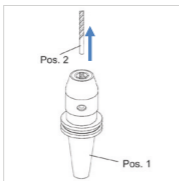

Figure 5: Removing tool
- Remove the tool (item 2) from the location bore of the drill chuck (see "Figure 5: Removing tool").